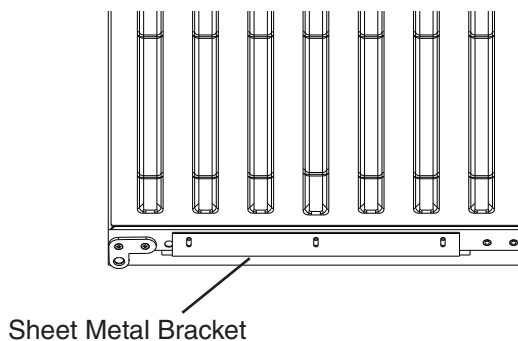

Fig. 22
- 3) Adjust the sheet metal bracket so that it is flush with the bottom of the door. See Fig. 22.